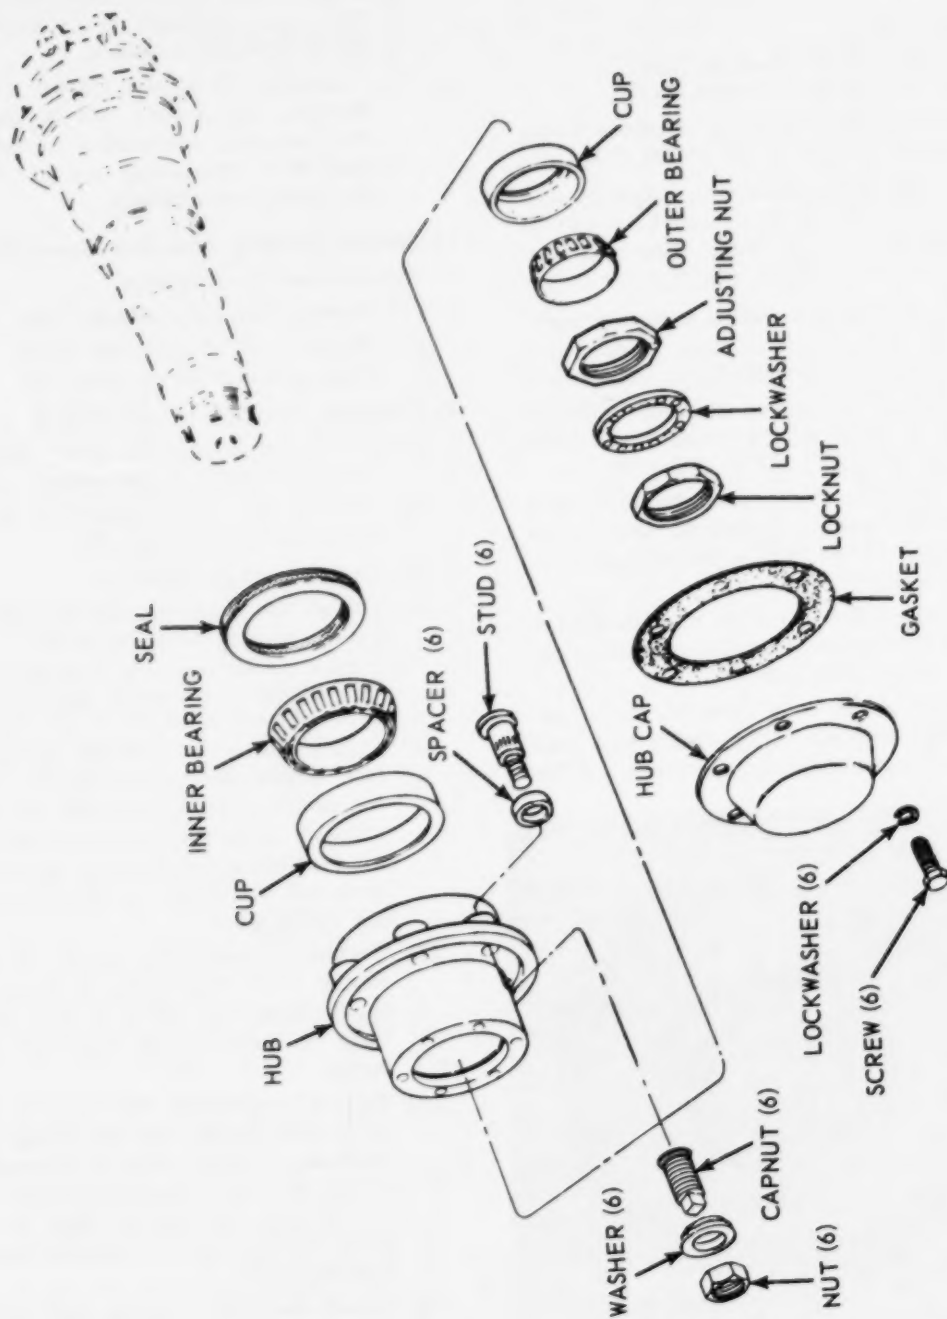

Figure 57. Wheel bearings and hub assembly, exploded view.
- (1) Remove the dolly wheels (par. 111).
- (2) Remove and disassemble wheel bearings as illustrated on figure 57.
- (1) Install the bearings and hub on the axle as illustrated on figure 57.